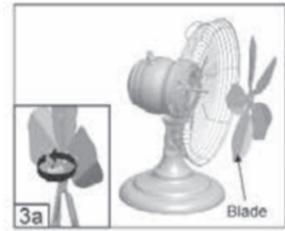
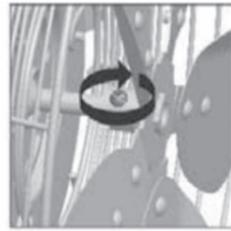

Figure 3
Figure 4
3. Loosen the screw on the back of the fan blade (Figure 3/3a), and slide the fan blade onto the post on the motor (Figure 4). When tightening the screw on the back of the fan blade, ensure you tighten it on the flat part of the post.